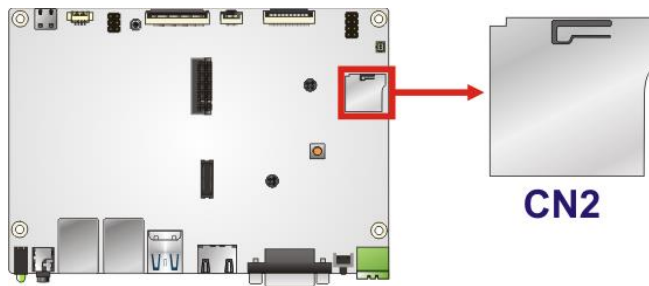

Figure 3-6: microSD Card Location
- CN Location:** See **Figure 3-6**